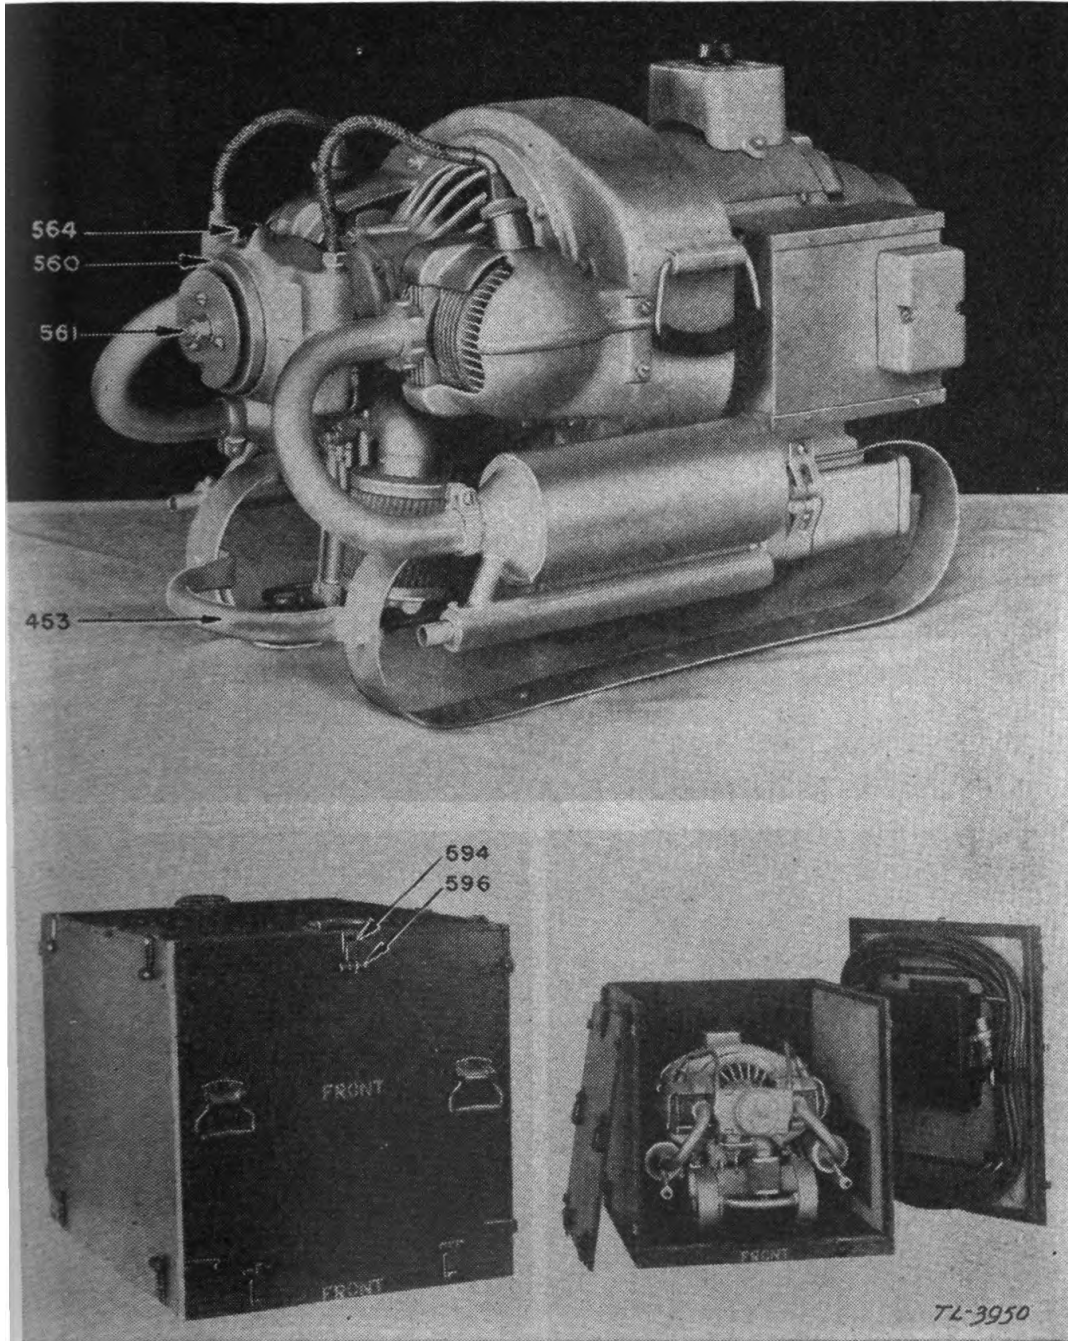
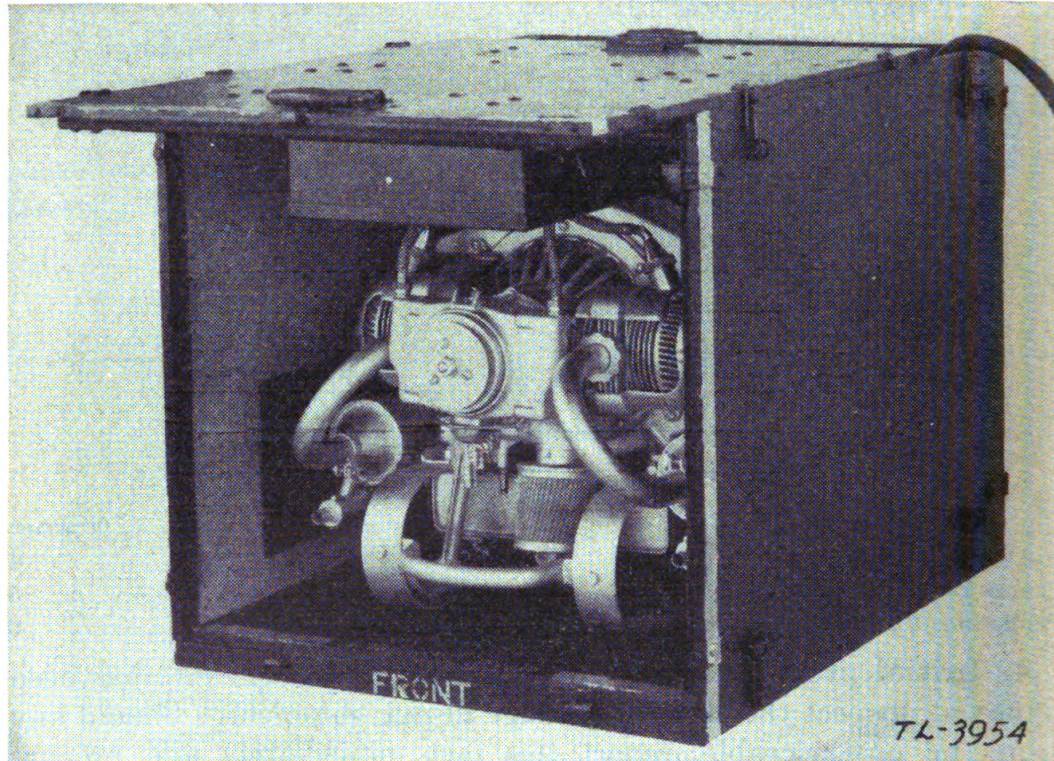
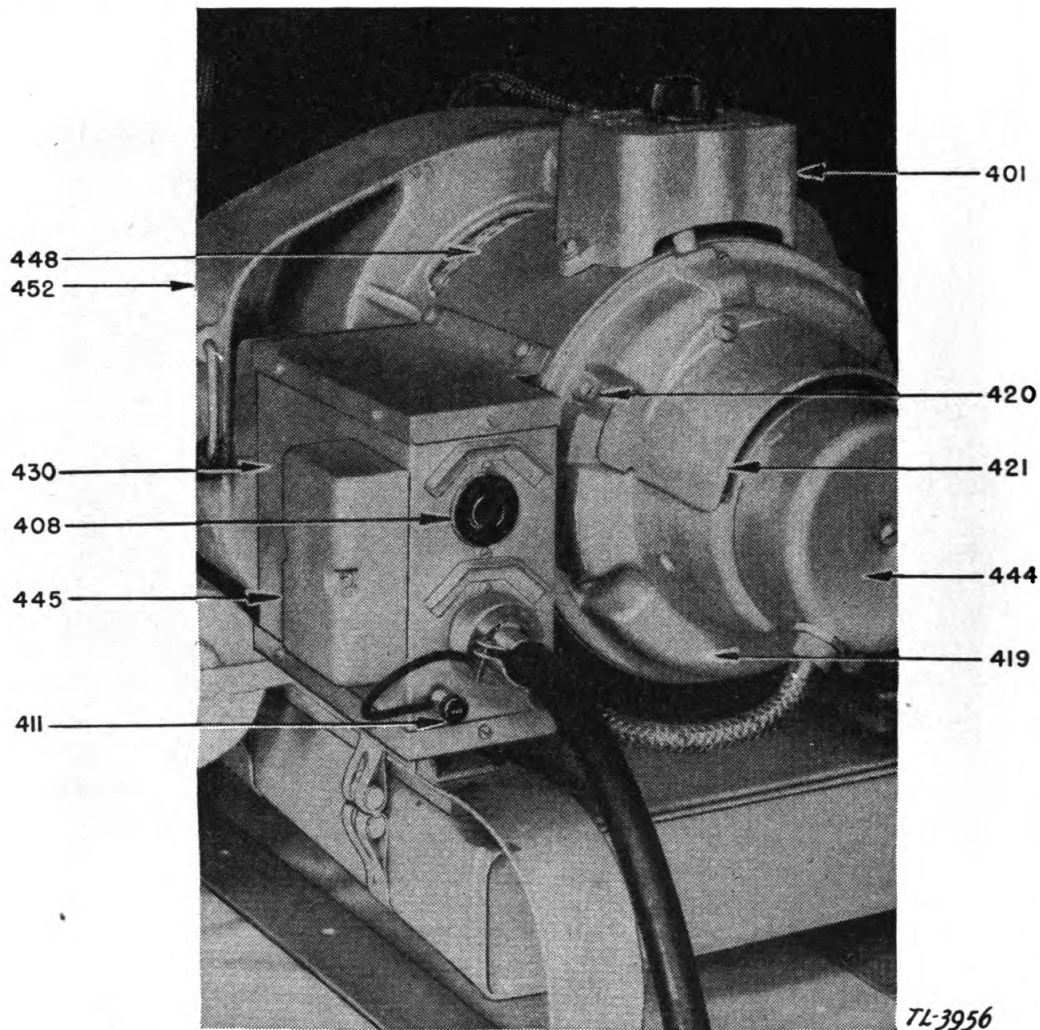

FIGURE 1.—Power unit PE-75-A (in and out of case).
FIGURE 5.—Power unit PE-75-A, ready for operation in case.
FIGURE 7.—Close-up of generator end, showing power cord in place.
**1. General.**—*a.* Power units PE-75-A and PE-75-B are self-contained, portable generators capable of supplying 2,500 watts of a-c power at 110 volts, 60 cycles, through 50 feet of cord. Figure 1 shows three views of the machines. The two models are alike except for very slight differences in several minor parts; the different suffix letters merely indicate different procurements. For the sake of convenience, reference will be made throughout this manual only to the power unit PE-75-A, and it will be understood that the same information applies equally to the power unit PE-75-B, unless otherwise stated.
*b.* Remove the six wood dowel pins (596) from the six catches (594) on the top of the case; release catches to permit removal of the top. (See fig. 1.)
*c.* Release the two catches (593) on front of case (fig. 1). (The front is indicated by a stripe around case.) Then remove the front end by lifting up.
*b. Operation in case, using cord CD-409 or CD-415.*—(1) Set case with front directed away from equipment to be operated. Follow starting and stopping instructions in *e* below.
(2) Remove cord CD-409 or CD-415 if supplied (see par. 1) from inside the case top; place top so that it projects beyond front of case, the overhang to be such as to permit fastening catches to center catch staples on top. (See figs. 5 and 6.)
(3) To place generator in operation, plug the cord into one of the twistlock receptacles (408) on the filter box (430). Attach ground wire on cord to binding post (411) on filter box (fig. 7). Current may be taken from both of the outlets at the same time, providing the total load does not exceed the rated capacity of the generator.
(4) Bring the cord up through rear opening at top. (See fig. 5.)
*c. Operation out of case using cord CD-409 or CD-415.*—(1) Remove rear end as described in paragraph 4c; then release catches holding sides to base for removal of these sections.
(2) The unit may be operated either on or off the base as required. To remove from base, take off the four wing nuts holding unit to base.
(3) Follow starting and stopping instructions in *e*(1) to (5), inclusive, below. Then proceed as outlined in *b*(3) above and *e*(6) below.
*d. Operation using separate wires connected to binding posts.*—Follow instructions in *b* or *c* above except for attaching cord. To obtain access to binding posts, remove side of case, if not already done; then remove filter box terminal cover (445). (See fig. 7.) Attach wires to binding posts, which are then exposed, running the wires through the cable clamp (426). (See fig. 19.)
*e. Starting and stopping.*—**Caution:** Before starting for first time, turn starting pulley (560, fig. 1) by hand to insure that shaft turns freely.
(2) Cut rheostat (401, fig. 7) out fully (turned completely in a counterclockwise direction) before starting engine.
(5) Wind starting rope (563, fig. 21) counterclockwise on pulley (560, fig. 1); place foot on footrest (453, fig. 1) and pull hard, giving the engine a quick spin.
(6) To obtain exact voltage, apply the load to the generator and then turn rheostat (401) clockwise until the desired voltage is obtained. (See fig. 7.)
(7) Once the unit is started, it should require no further attention other than refueling, and possible adjustment of the rheostat if the load is changed.
(8) To stop engine, press red stop button (564, fig. 1) and hold firmly until engine stops.
*f. Starting and stopping procedure summarized.*—(1) Fill with fuel and oil.
**10. Generator.**—*a. Commutator (404) and collector rings (405)* (fig. 10).—(1) To inspect commutator and collector rings, remove brush head cover plate (421, fig. 7). The commutator should require no cleaning for several hundred hours of operation. It need be cleaned only when excessively carbonized, when too much arcing occurs, or if scored.